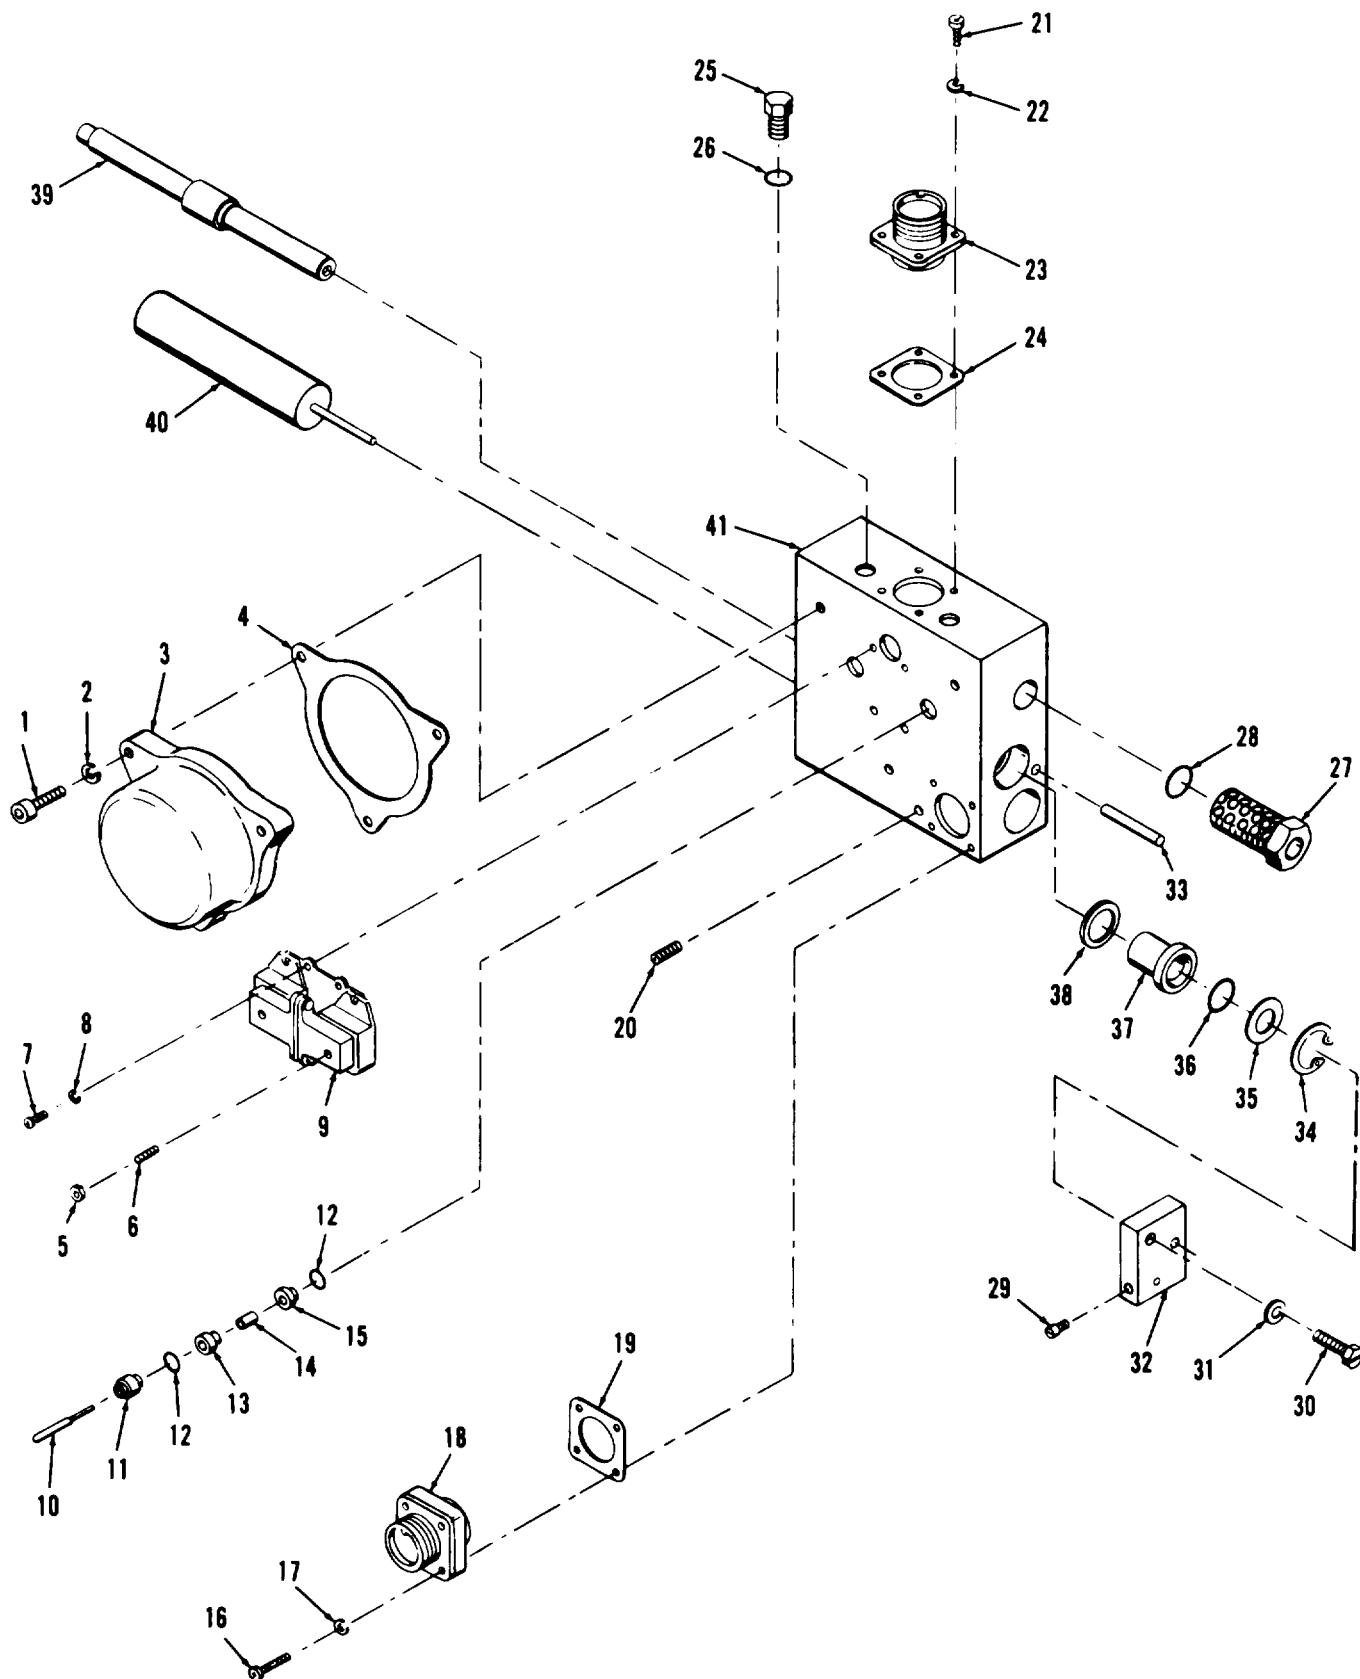
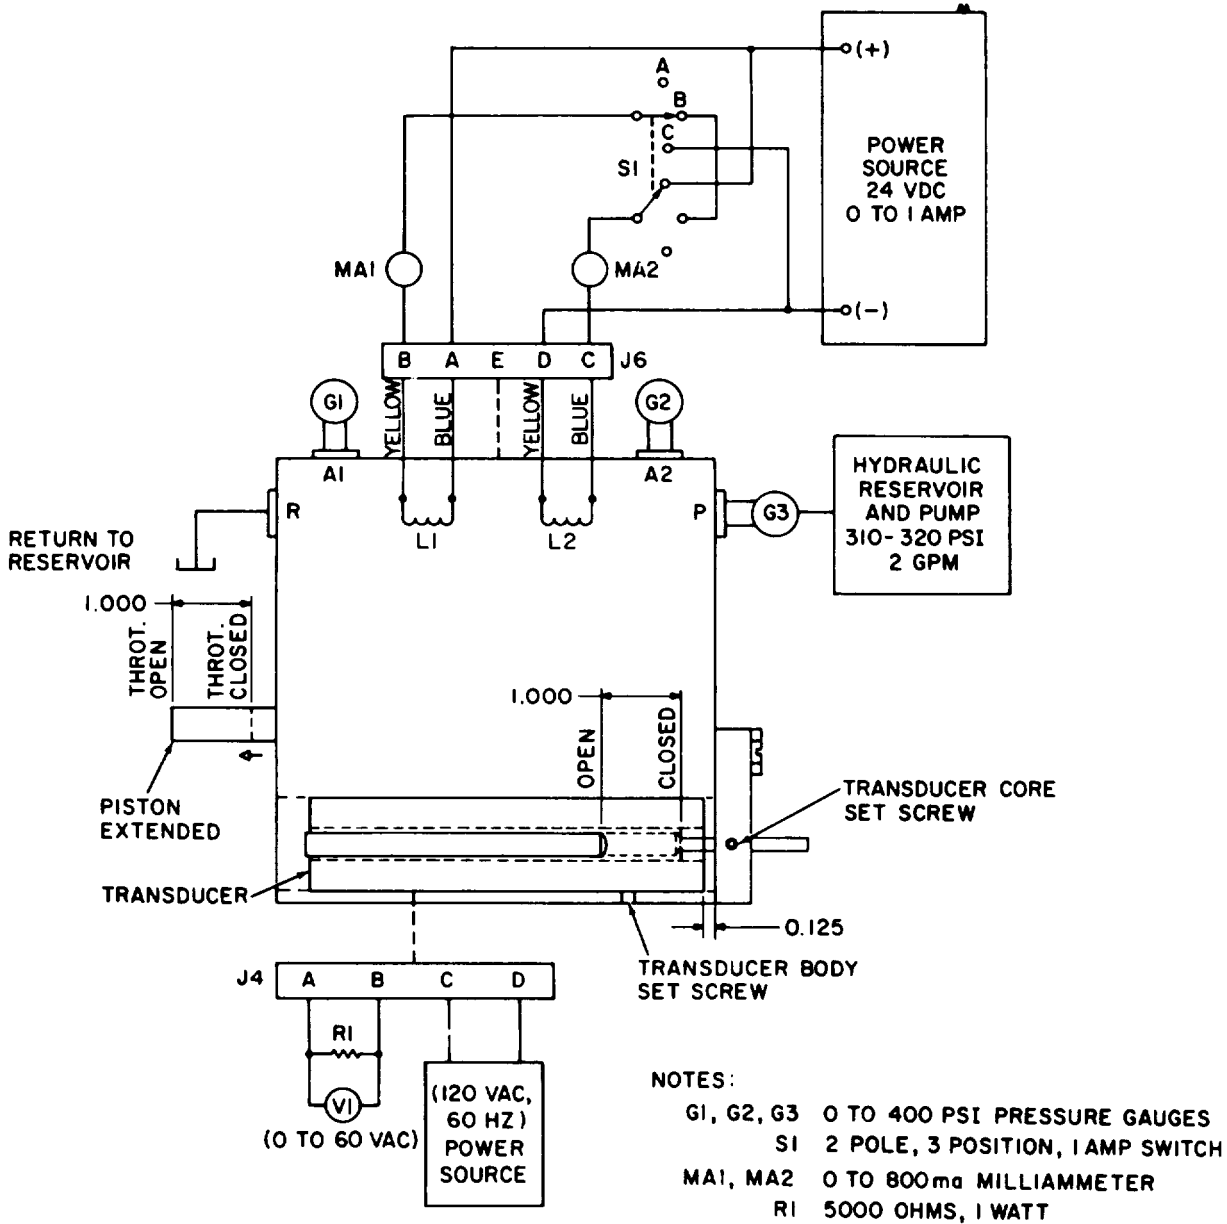

Figure 8-26. Governor actuator unit, exploded view (precise sets only)
Figure 8-27. Governor actuator unit, test and adjustment
Refer to figure 8-26 and disassemble governor actuator unit in the order of index numbers assigned. Pay particular attention to the following.
Legend to figure 8-26:
Refer to figure 8-26 and reassemble governor actuator unit in the reverse order of index numbers assigned. Pay particular attention to the following:
a. Coat piston (39) with clean hydraulic oil conforming to Military Specification MIL-H-5606, prior to reassembly.
b. If receptacle (23) had to be removed due to armature and coil assembly (9) replacement, reconnect coil leads to receptacle L1 and L2 coils as shown in figure 8-27 as they are located when transducer
body of actuator unit is positioned like that shown in figure 8-27.
c. When inserting transducer assembly (40, figure 8-26) in transducer body (41), refer to figure 8-27 for location of transducer body and position of core in relation
Connect the governor actuator unit to test equipment as illustrated in figure 8-27 and proceed as follows:
2, If gauges G1 and G2 do not indicate the required pressures, adjustment of valve screws (6, figure 8-26) on the armature and coil assembly (9) will have to be made. Proceed as follows.
(b) Loosen lock nuts (5, figure 8-26) on each valve adjustment screw (6).
c. Actuator Output Shaft Position Transducer Test and Adjustment. Connect voltmeter V1 and power sources to receptacle J4 on actuator as illustrated in figure 8-27 and proceed as follows:
2. Move the actuator output shaft to fully extended position. Transducer assembly (40) locked in place at dimensions indicated in figure 8-27. V1 shall indicate 0.5 to 2.5 volts. This shall be minimum voltage regardless of what other position the output shaft is placed.
3. If voltage range on V1 is not with the required 0.5 to 2.5 volts, loosen transducer core set screw (29, figure 8-26) on link (32) and move the core relative to the body until the minimum voltage of 0.5 to